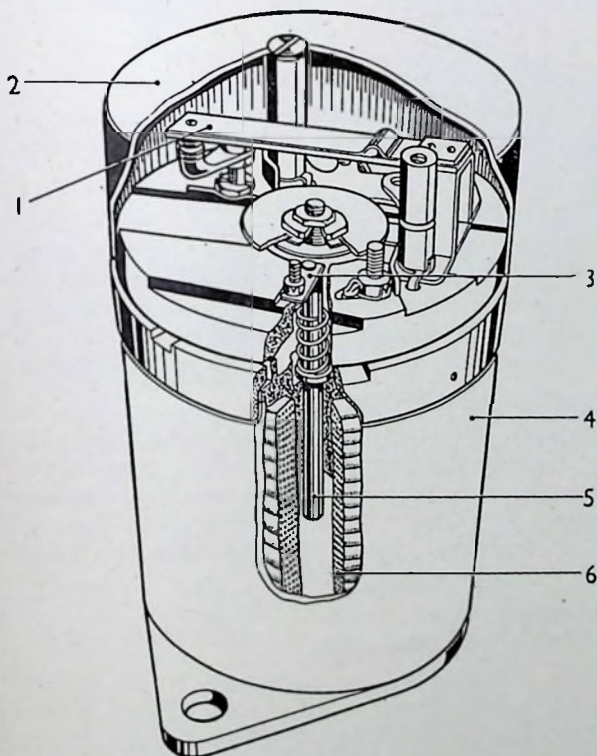

FIG. 8.—Sectioned gearshift solenoid.
The gearshift solenoid (Fig. 8) is used to engage the dog-clutch to obtain Intermediate gear. It uses the well-known solenoid principle, but in order to provide a larger pull at the beginning of its travel it contains two coils (6) (a main coil and a "hold" coil). At the commencement of its travel both these coils are used, but having reached full engagement the main coil is switched out by the solenoid switch (1) which is operated by the solenoid armature via a small plunger (5).